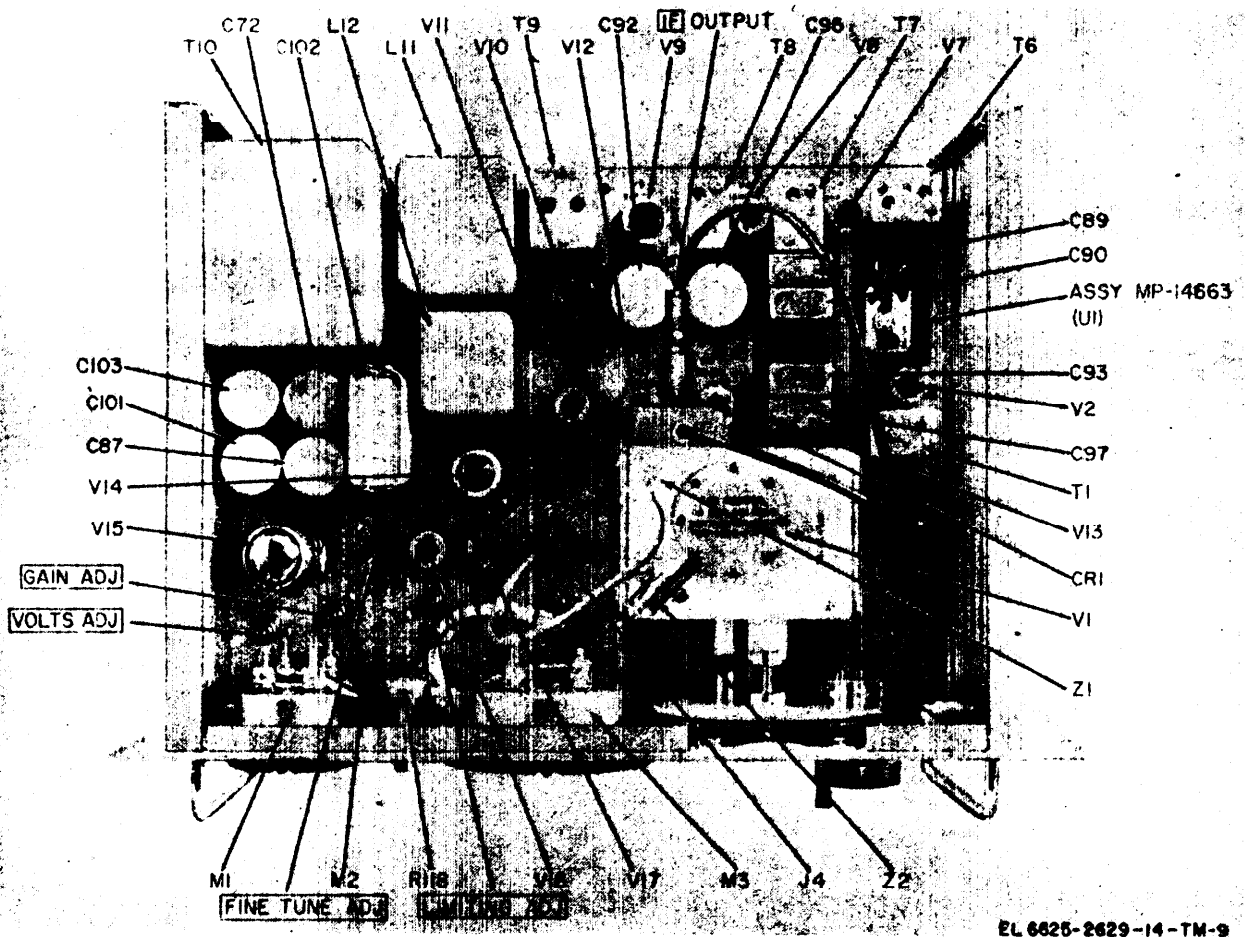

Figure 7-1. Modulation meter chassis, parts location, top view.
Parts locations are shown on figures 7-1, 7-2, and 7-3. A schematic diagram for the overall modulation meter is contained on figure FO-2. The overall wiring diagram is figure FO-3.
- (1) Disconnect the rf cable at the if input mixer connection (fig. 7-1).
- (2) Connect the am generator output to this cable. (Be sure that the modulation selector switch is in the OFF position.)
- (3) Tune the am generator to 12 MHz and increase the output until the LIMITING meter indicates in the black area.
- (4) Check the indication on the CARRIER SHIFT meter. It should read nearly zero with TUNE-FINE TUNE switch in FINE TUNE position. If it does not read zero, tune the am generator until it does.
- (5) If LIMITING and CARRIER SHIFT meter readings are indicated, the oscillator-probable is faulty.
- (6) If the LIMITING meter reading cannot be indicated, the trouble is probably in the if amplifiers. If the if amplifiers are suspected of being fault y, use the test method given in c below.